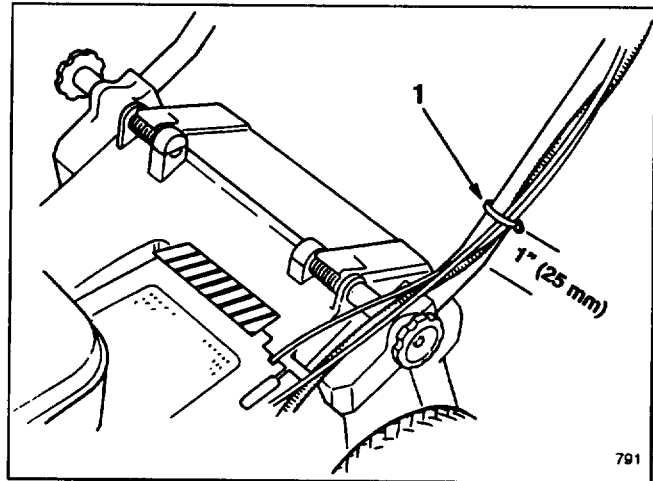

Figure 3
6. Use cable tie to secure cable(s) to lower side of left hand tube (Fig. 3). Cable tie should be positioned 25 mm (1") from bend in handle. See Figure 3 for correct cable placement.